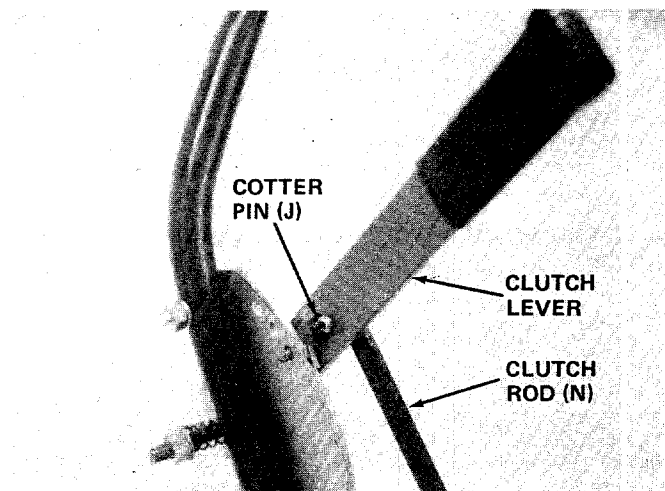

FIGURE 8.
- Place hook end of clutch rod (N) in clutch lever. Secure with cotter pin (J). See figure 8.